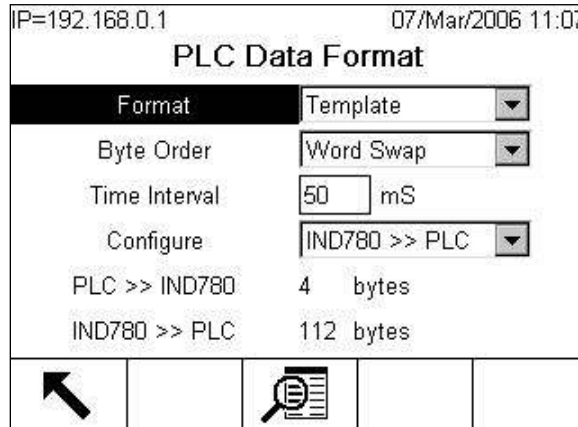

Figure 8-10: PLC Data Format Screen
1. In Setup, select **Communication > PLC Interface > Data Format**. Figure 8-10 shows the screen with Template selected as the format, revealing the Time Interval, Configure, and directional displays. When Application format is selected, only the Format box appears on this screen.
6. The bottom of this screen (Figure 8-10) displays the number of bytes that will be sent by the IND780 and the number of bytes expected from the PLC.